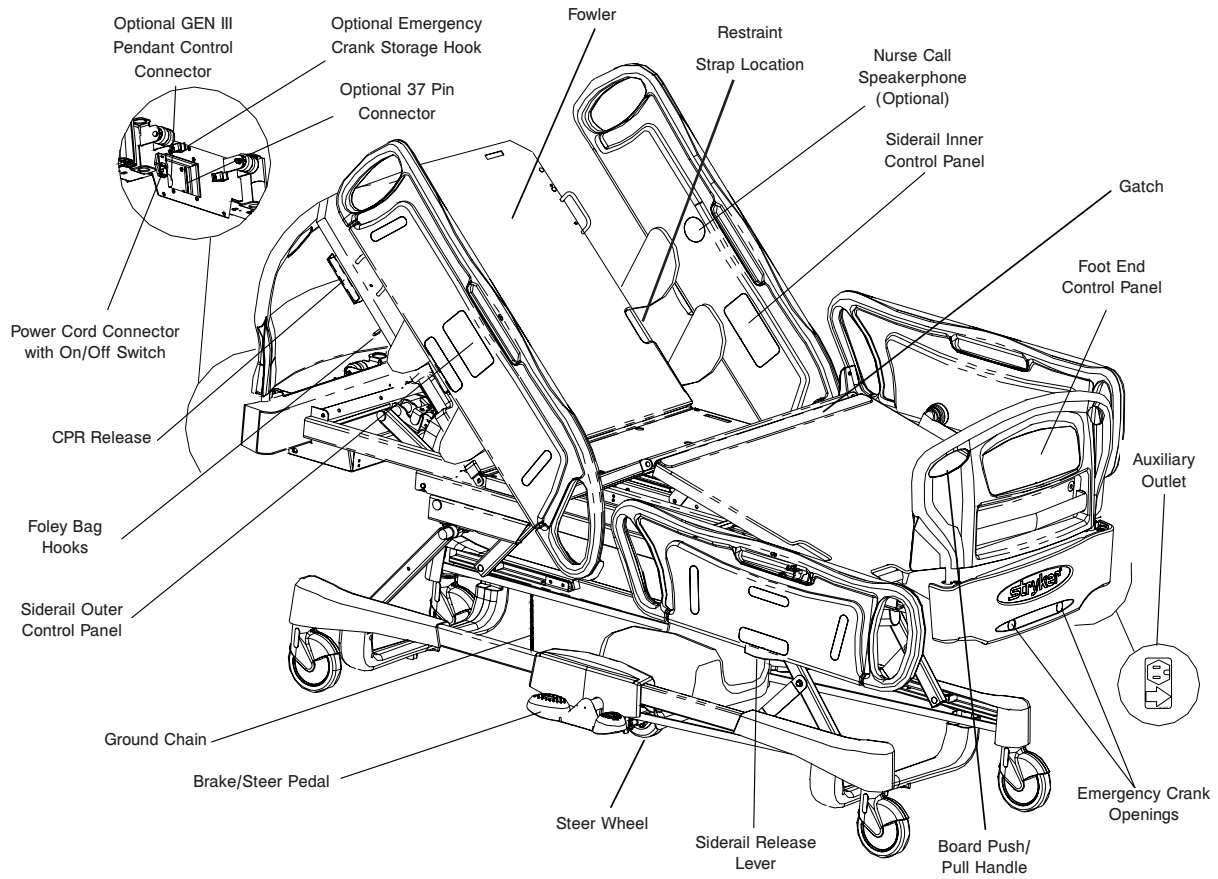

Figure 1.9
- Make sure that the ground chain is in place, intact and it's touching the floor (see Figure 1.9, page 10).